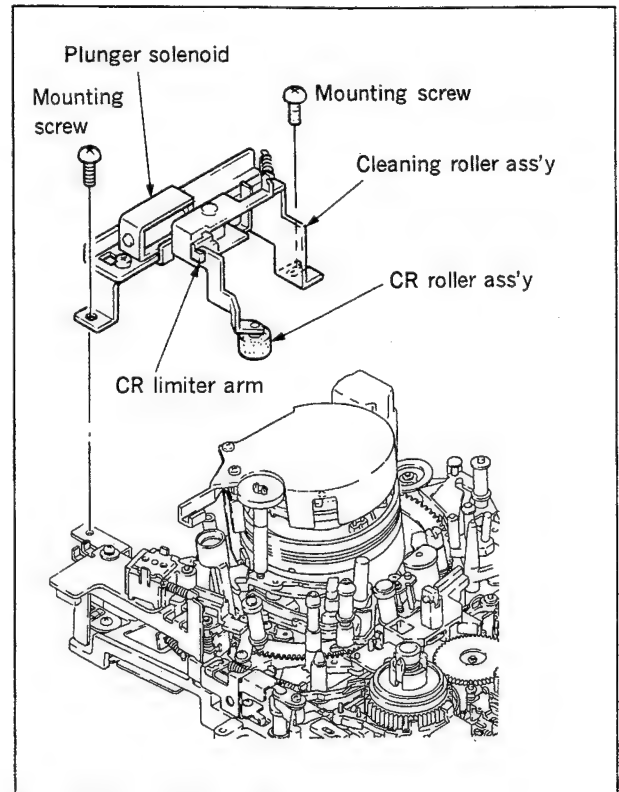

Fig. 4-5-5 Cleaning roller ass'y removal
2. **Cleaning roller ass'y removal (Fig. 4-5-5)**